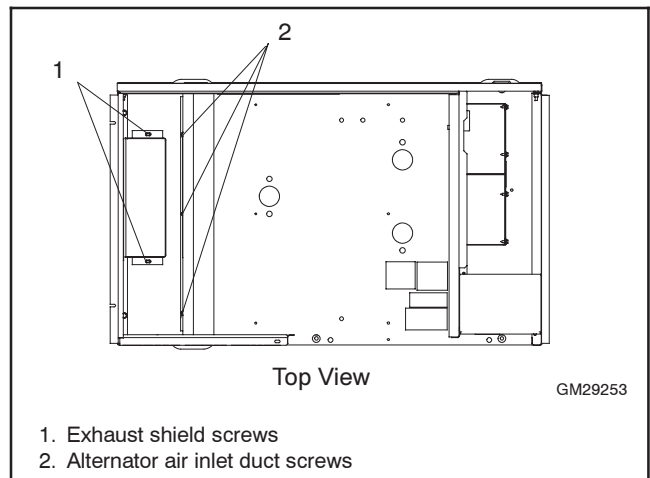

Figure 7-7 Shield and Alternator Air Inlet Duct, Top View
4. Remove the exhaust shield and alternator air inlet duct. See Figure 7-7.